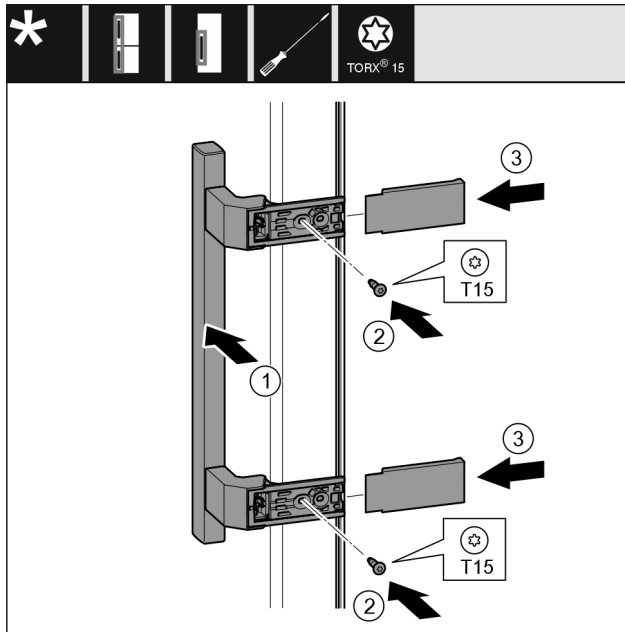

Fig. 33
- ▶ Place the handle Fig. 33 (1) on the opposite side.
- ▶ Tighten screws Fig. 33 (2) with screwdriver.
- ▶ Place the covers Fig. 33 (3) on the side and push them on.